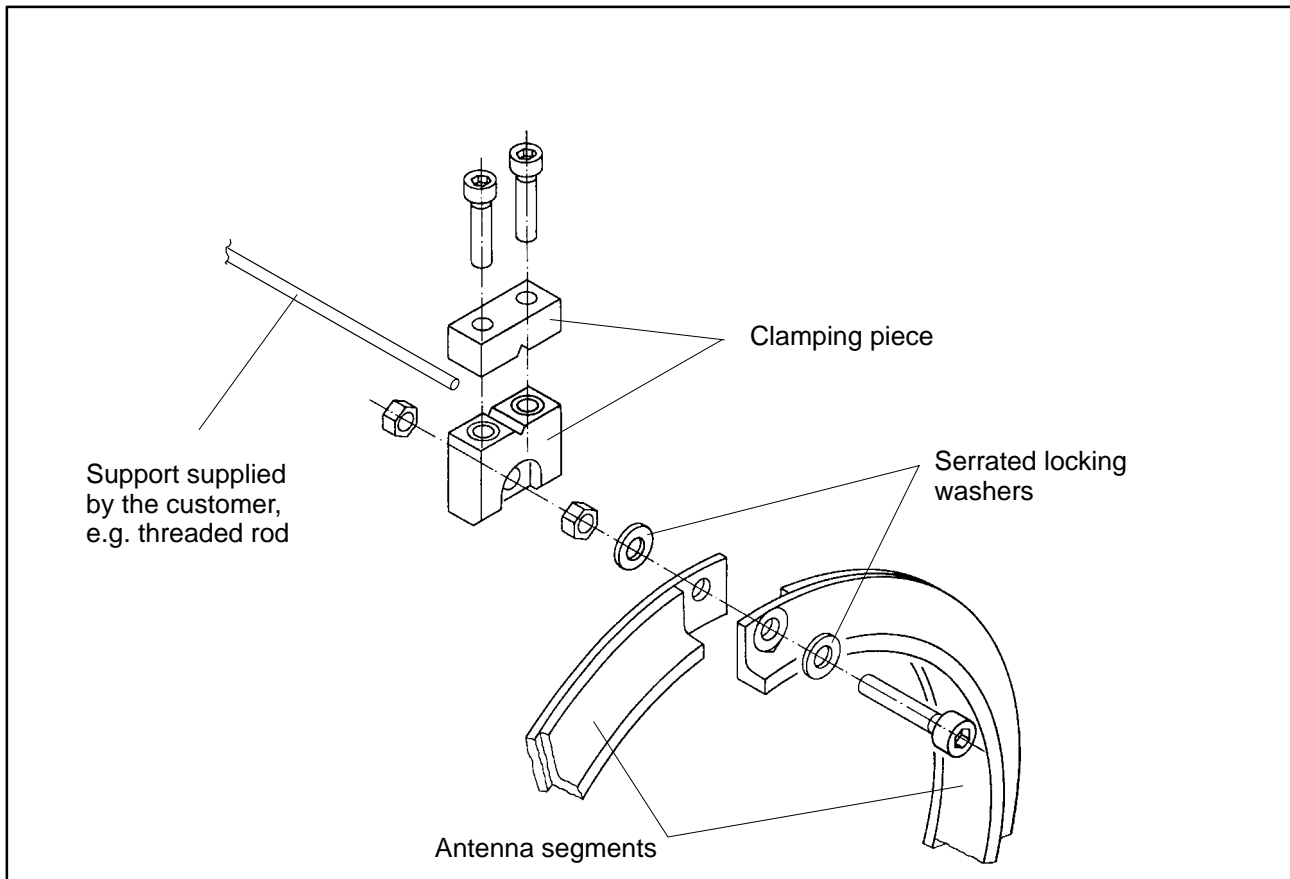

Fig. 4.4: Clamping piece assembly
2. Fasten the clamping piece with the enclosed screws as shown in Fig. 4.4. It is essential to use the new serrated locking washers.